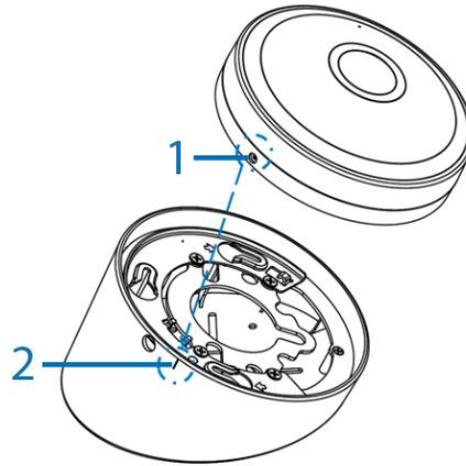

Figure 8
18. Hold the camera up to the tilt mount and align the security screw (1) (Figure 8) with the tilt mount alignment mark (2) (Figure 8).